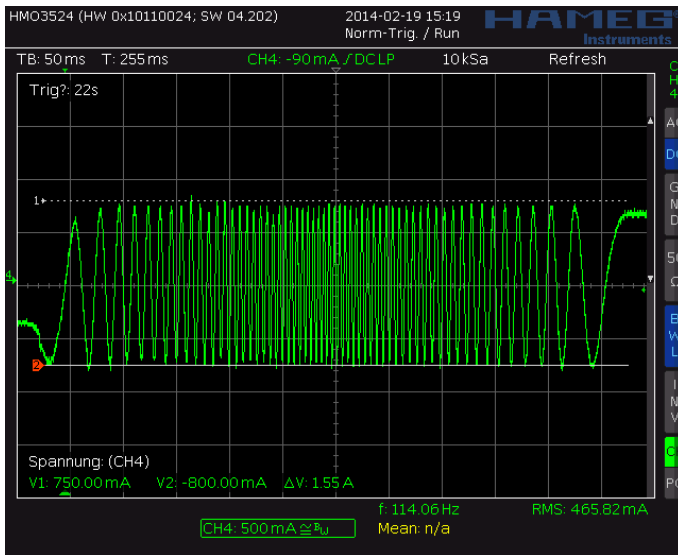
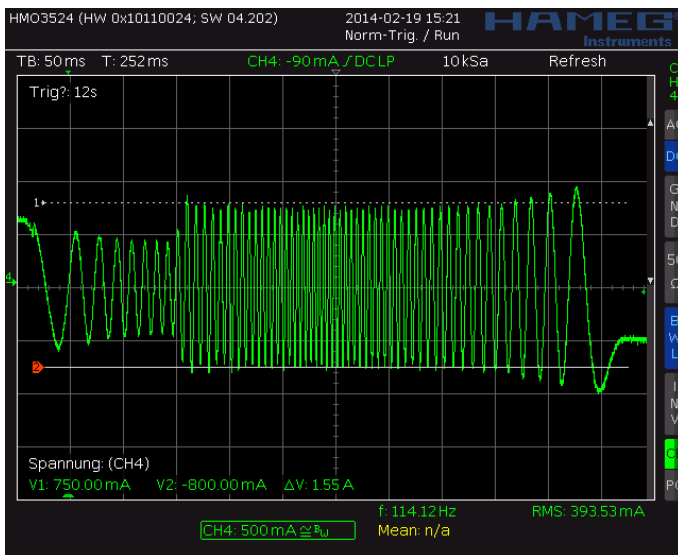
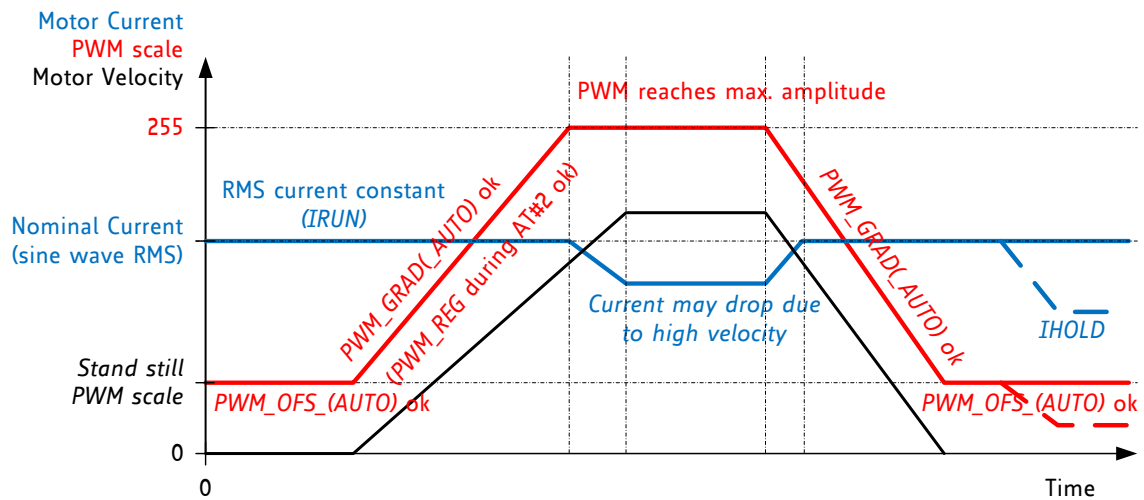

Figure 7.3 Scope shot: good setting for PWM_REG
Figure 7.4 Scope shot: too small setting for PWM_REG during AT#2
Figure 7.5 Successfully determined PWM_GRAD(AUTO) and PWM_OFS(AUTO)
In stealthChop voltage PWM mode, the autoscaling function ($pwm_autoscale = 1$, $pwm_autograd = 1$) regulates the motor current to the desired current setting. Automatic scaling is used as part of the automatic tuning process (AT), and for subsequent tracking of changes within the motor parameters. The driver measures the motor current during the chopper on time and uses a proportional regulator to regulate PWM_SCALE_AUTO in order match the motor current to the target current. PWM_REG is the proportionality coefficient for this regulator. Basically, the proportionality coefficient should be as small as possible in order to get a stable and soft regulation behavior, but it must be large enough to allow the driver to quickly react to changes caused by variation of the motor target current (e.g. change of $VREF$). During initial tuning step AT#2, PWM_REG also compensates for the change of motor velocity. Therefore, a high acceleration during AT#2 will require a higher setting of PWM_REG . With careful selection of homing velocity and acceleration, a minimum setting of the regulation gradient often is sufficient ($PWM_REG=1$). PWM_REG setting should be optimized for the fastest required acceleration and deceleration ramp (compare Figure 7.3 and Figure 7.4). The quality of the setting PWM_REG in phase AT#2 and the finished automatic tuning procedure (or non-automatic settings for PWM_OFS and PWM_GRAD) can be examined when monitoring motor current during an acceleration phase Figure 7.5.